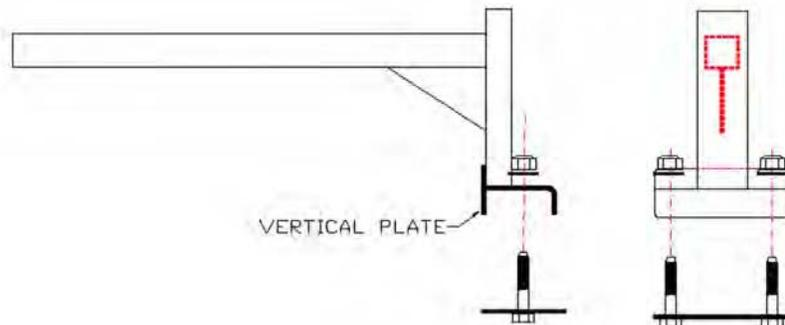

FIG. 7
- After making sure that your van is placed in a safe and level place, place a blanket or other suitable cushion on the roof. With the help of a friend pick up the rack and place it on the roof of your van and place it in the position where you want it mounted. Notice that on the end of the Clamp Arm there is a small vertical plate as shown in Fig. 7.